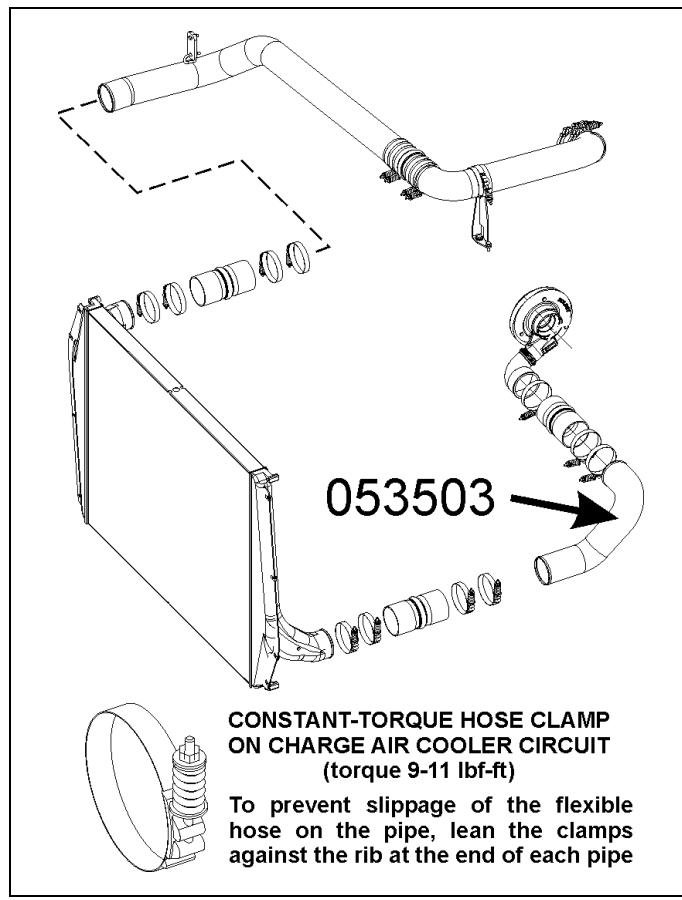

FIGURE 2: CONNECTING PIPE
5. Torque hose clamps to 9-11 lbf·ft (Refer to figure 2).